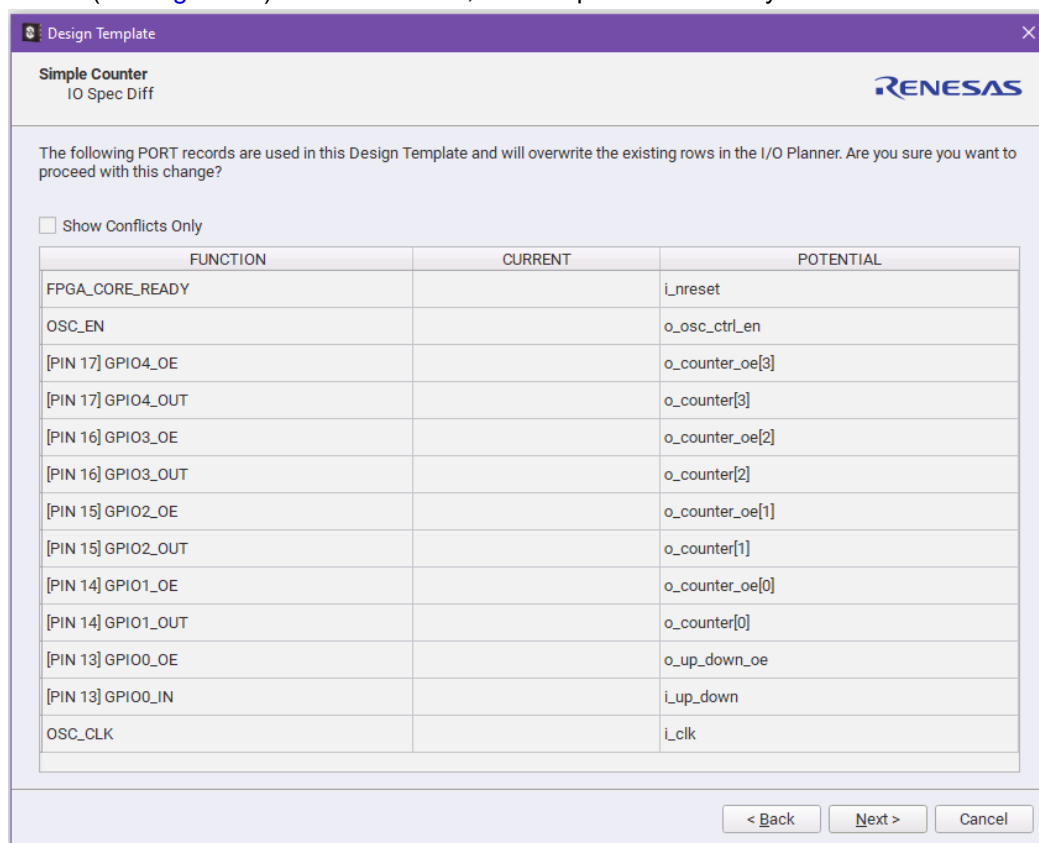

Figure 14. Design Template IO Spec Diff
- **IO Spec Diff** – generates an IO Spec Diff, presenting a comparison between the existing design port records and the ones associated with the selected template. This serves as a cautionary step as the current port configurations could potentially be overwritten by those of the chosen template. The software highlights conflicting entries in yellow. It is possible to focus solely on conflicts by selecting the **Show Conflicts Only** button option. However, if the IO Specs are not reviewed, the software streamlines the process by skipping the IO Spec Diff (see Figure 14). In this scenario, the tool proceeds directly to Module name.